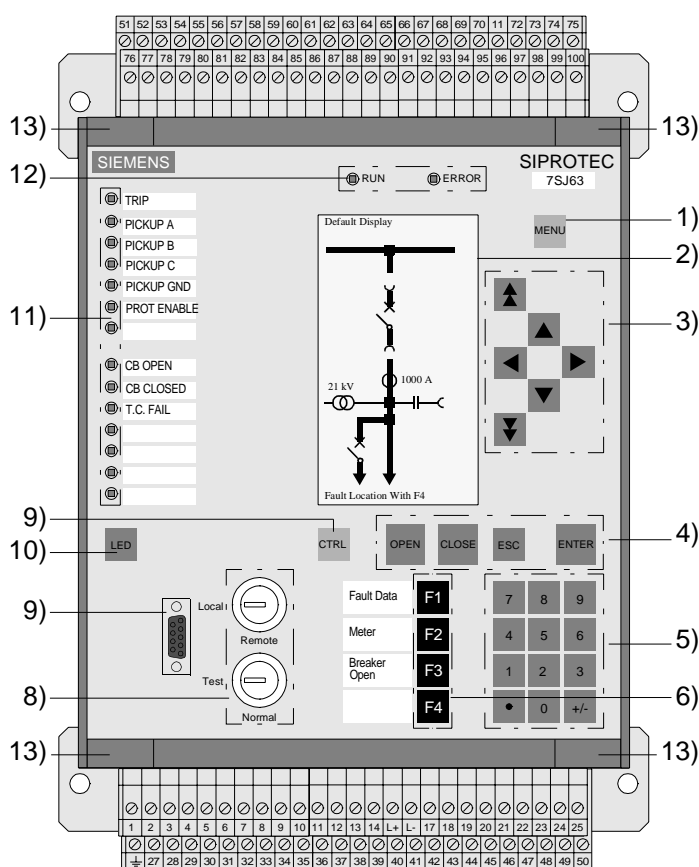

Figure 2-16 Front View, 7SJ63, (Housing Size $1\frac{1}{2}$), for Panel Surface-mounting, without Optical Connections
The significance of the operating and display elements is the same as explained after Figure 2-16.
All connections including the electrical communication interfaces and the ground are made to threaded terminals on the two, double-row terminal blocks mounted on the top and bottom of the 7SJ63. The terminal blocks are shown in Figures 2-16 and 2-17. The terminals are consecutively numbered from left to right on each block. There are a total of 100 (200) terminals.